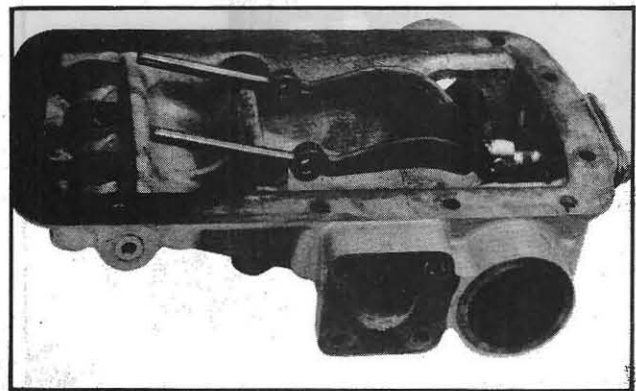

Fig. 328
1. Place the lift spring control fork and the control spring plunger in the lift cover, as shown in Fig. 328, and fasten them together with the clevis pin.